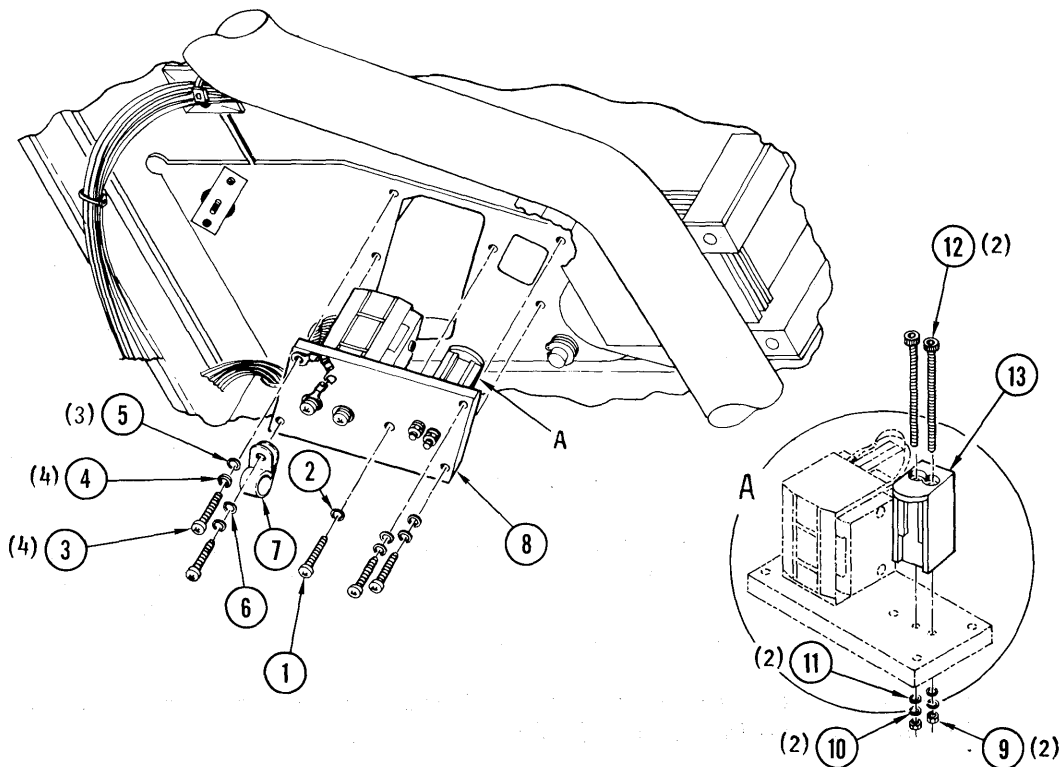

Figure 4-10. Head Assembly
4-24. **Removal and Replacement of Assembly and Parts (Figure 4-10).** Place the transport in service access position (paragraph 4-3) and proceed as follows:
It is not necessary to remove complete assembly from top plate in order to remove tape scraper (13, Figure 4-10). Refer to this paragraph, step f. If head is defective and in need of replacement, entire head assembly (8), including tape scraper (13) must be replaced.
- b. Working from under side of top plate, remove center adjustment screw (1), flat washer (2), four screws (3), and lockwashers (4), three flat washers (5), one flat washer (6), and cable clamp (7) supporting assembly (8) with one hand as last screw is removed. Identify wire terminal and cable clamp as to position from which removed, and save attaching parts for reinstallation.
- c. Pull assembly (8) and wire harness carefully down through hole in top plate and cables over air intake tube.
- d. Install replacement assembly in reverse order of sequence in steps b and c, carefully pushing head and connectors through hole in top plate and attaching wire terminal and cable clamp in positions from which removed. Do not tighten center adjustment screw (1) at this time.
- f. If tape scraper (13) only is to be replaced, remove two socket-head screws (12), nuts (9), lockwashers (10), and flat washers (11). Save attaching parts for reassembly, and install replacement scraper in reverse order of removal.
- g. Adjust tape scraper (13) as follows:
- (1) Insert and load a tape.
- (2) Loosen socket-head screws (12) and move tape scraper away from tape.
- (3) Slowly move tape scraper toward tape until it contacts tape.